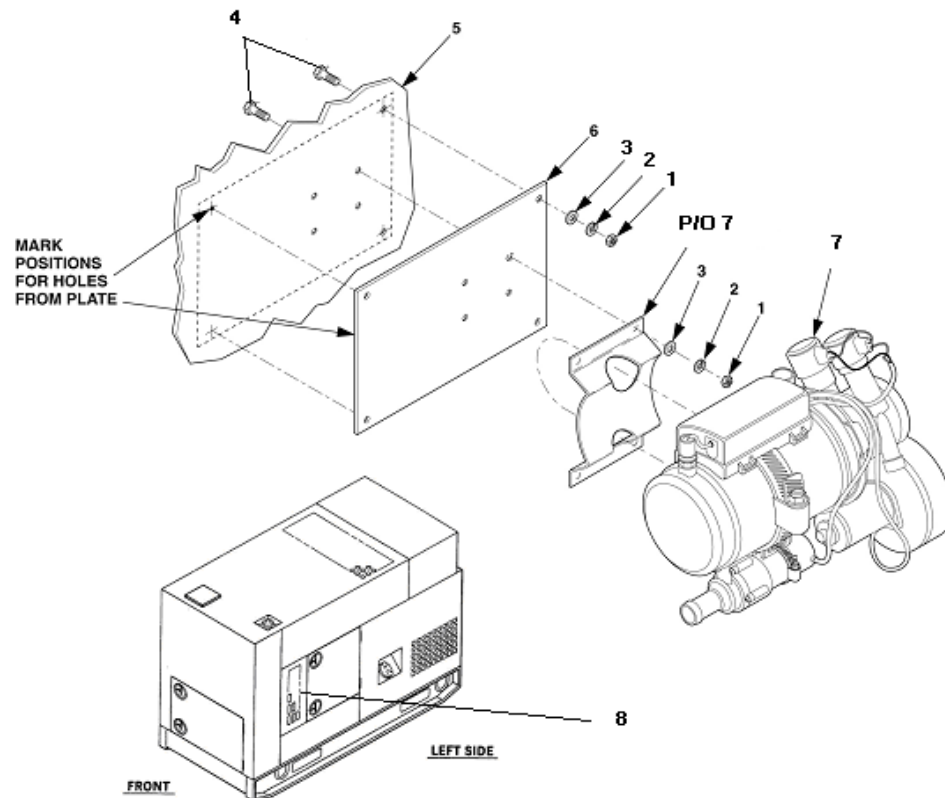

Figure 4-35. Heater Assembly
4. Open control panel access door (8), Figure 4-35.